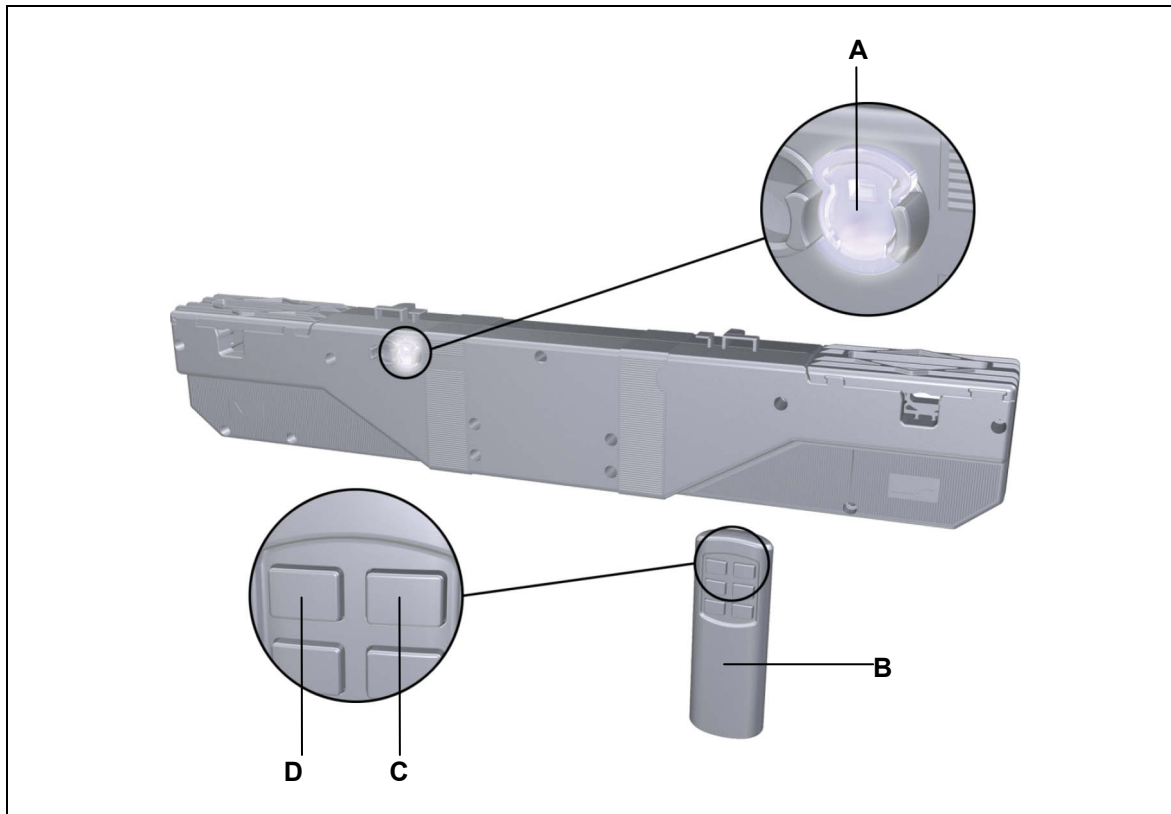

Figure 20 Programming the RF Eco hand-held remote
- 1 Press the function key on the drive (A in Figure 20) twice (a quick double click). The drive will now be in the teach-in (programming) mode for approximately 10 seconds. The LED on the function key lights up.
- 2 Press the (C) and (D) keys simultaneously on the RF Eco hand-held remote. Hold down both keys until the function key's LED starts to blink. The RF Eco remote is now programmed and ready to use.
- 1 Press the function key on the drive (A in Figure 20) four times quickly.
- 2 Then press the function key (A) one more time. The RF Eco remote is now deactivated.